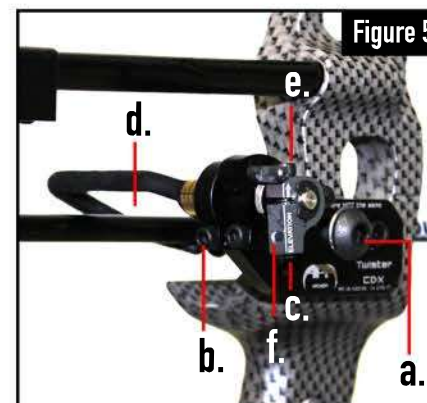

Figure 5
- 3 Make sure clearance (Fig. 5d) is approximately 3/16". At the same time, make sure that the arrow is at 90 degrees to the string, or up to 1/16" tail high at the arrow launch position as in (Fig. 5).